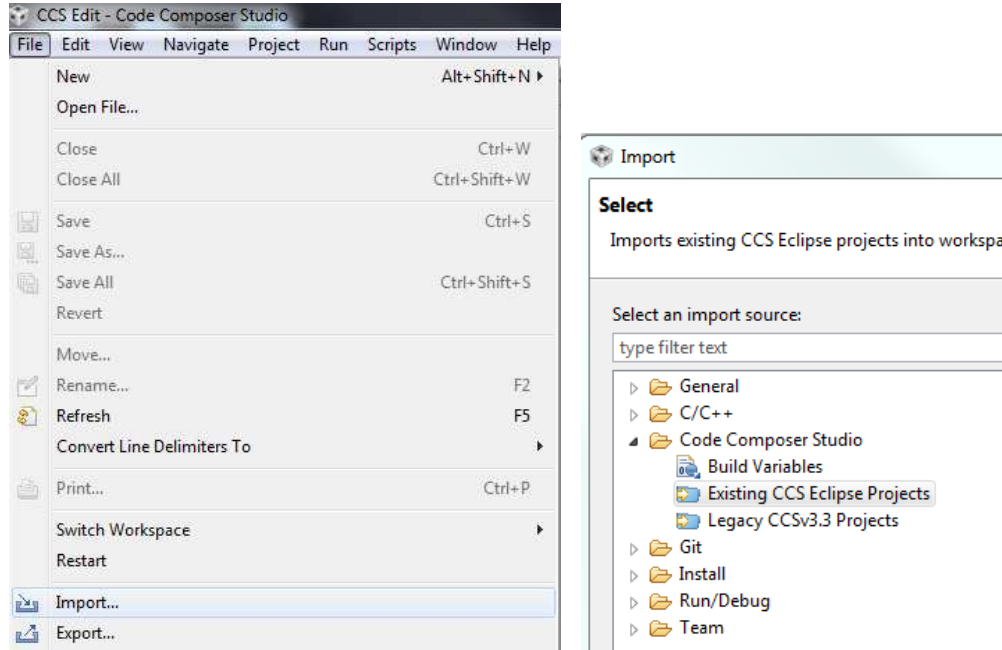

Figure 10. Existing CCS Eclipse Projects
- Select **Existing CCS Eclipse Projects** under the **Code Composer Studio** tab (Figure 10)